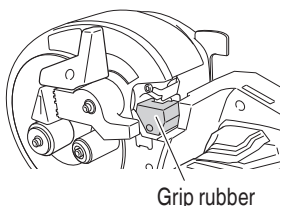

Fig. 30
- (8) Make sure the grip rubber isn't worn down (Fig. 30)